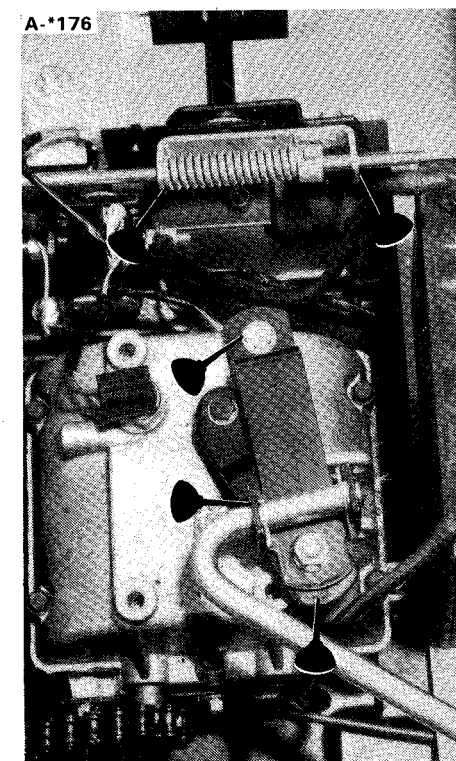

Figure 4. Transmission and PTO Rod Lubrication. Shown without fuel tank for clarity.
4. Lubricate the points where the gear shift linkage pivots on the transmission. Also lubricate points where PTO rod touches rod guide. See figure 4.